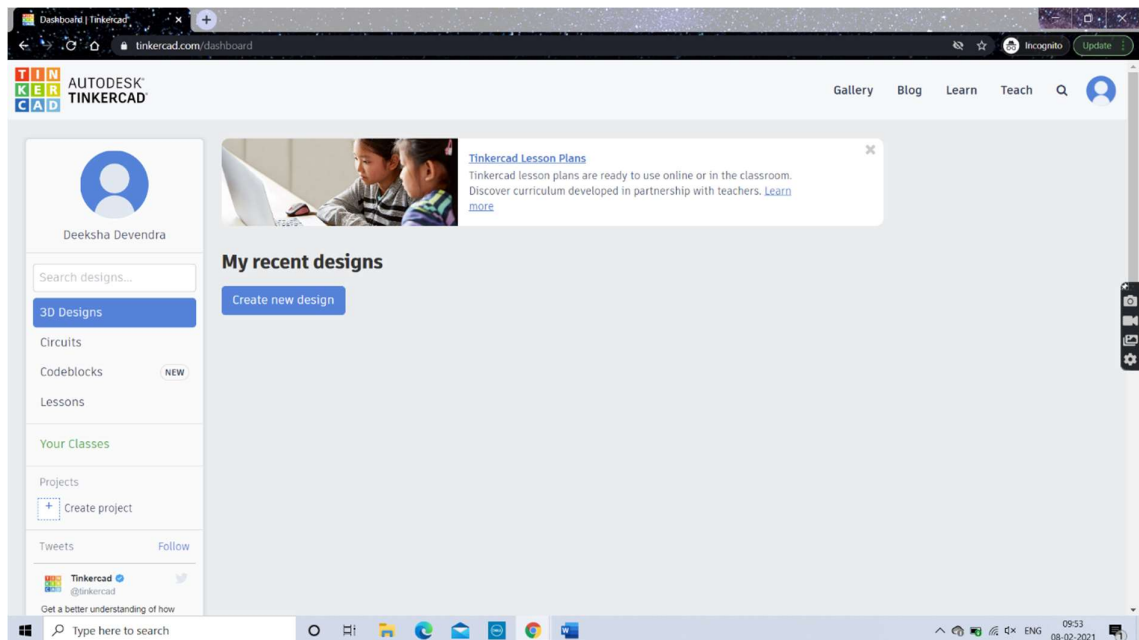

Fig: 1 Dashboard of Tinkercad
3. A successful login will transition to dashboard with the users' name (as shown in Fig. 1) with options of designing 3D models, circuits, codeblocks etc. popped up on left of the screen.